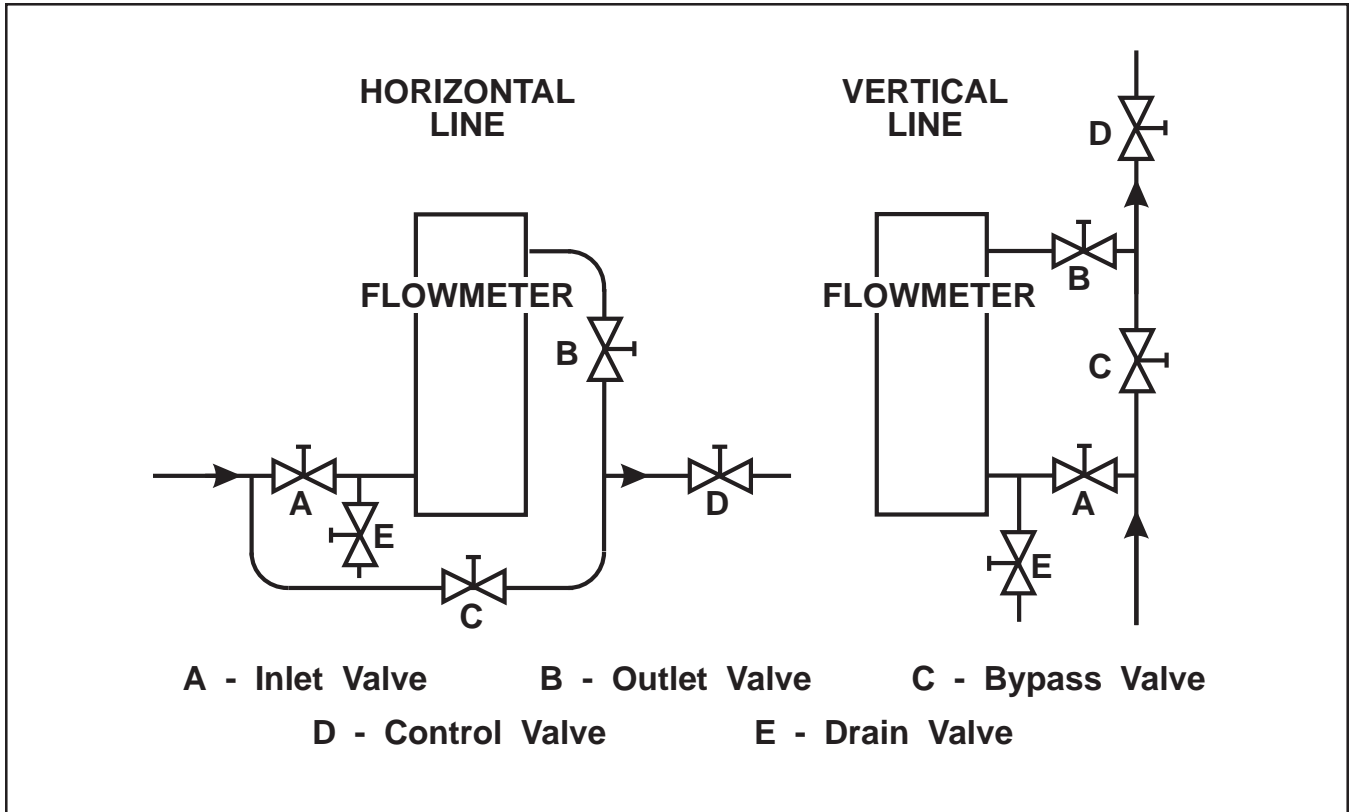

Figure 2-1 Typical Flowmeter Piping Configuration
2. It is recommended that a bypass be installed around the flowmeter so that it may be removed for servicing. Refer to Figure 2-1.